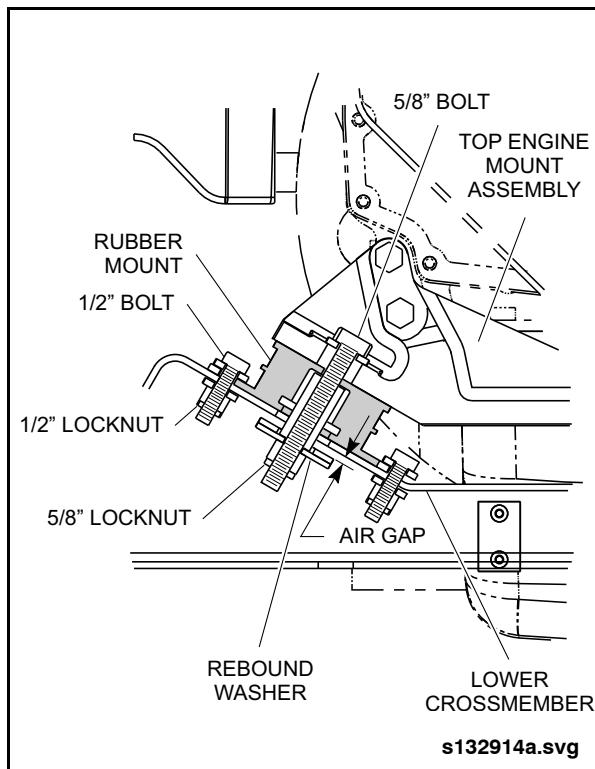

Fig. 4-9: Front Engine Mount Cross-Section
4. Install the 5/8" bolt, flat washer, spacer, engine rebound washer, and lock nut. See "Fig. 4-9: Front Engine Mount Cross-Section" on page 12.